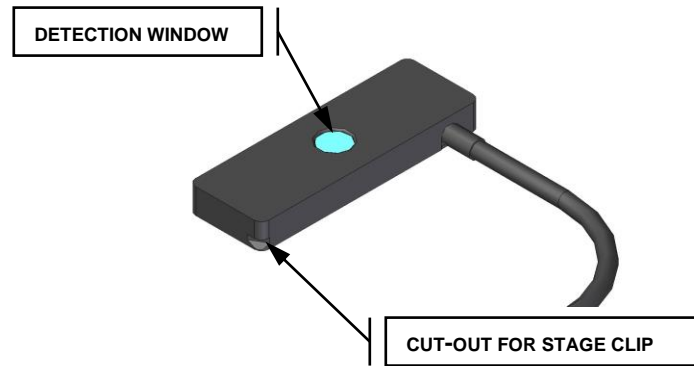

Figure 1: XP750 Top View
- 4.2.2 For upright microscopes, place the XP750 onto the stage with the detection window (refer to Figure 1) facing up, and approximately centered beneath the microscope objective lens.
- 4.2.3 Secure the XP750 in place using the microscope's stage clip and the supplied suction-cup ensuring the XP750 is seated firmly and sits flush on the stage. The suction-cup can be adjusted to fasten anywhere along the XP750 connection cable or removed if not needed to hold device in place. The microscope stage clip should be resting in the "stage clip cut-out" to prevent slipping. Refer to Figure 1.
- 4.2.5 To align the detection window (refer to Figure 1) with the visible light from the microscope objective, use the microscope stage x-y controls, ensuring the light is centered within the window